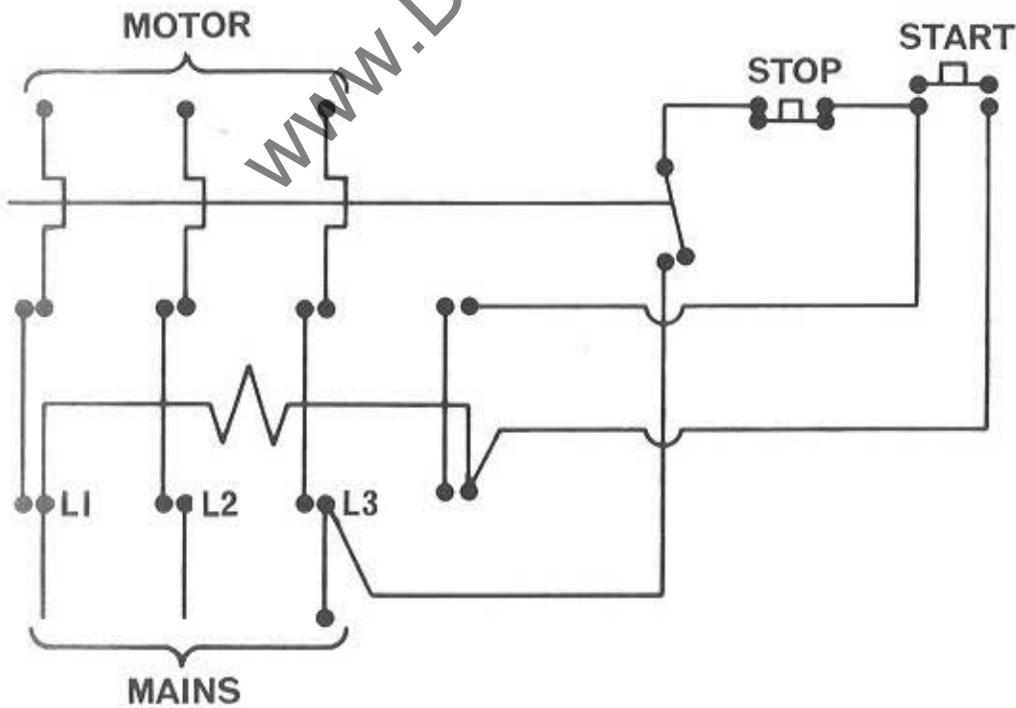

FIG. 3
4. Connect the line leads to the appropriate terminals. See Fig. 3 for three phase supply.